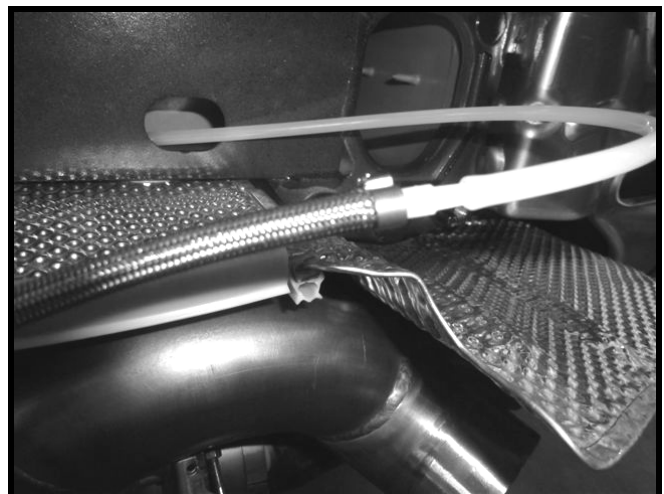

Fig. 10
- 9 Connect the steel braided lines and the vacuum lines with the hose connector and secure with the clips (see fig. 10).